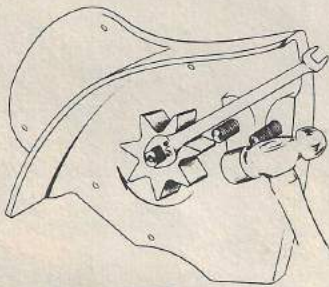

Fig. 15
- 1. TO REMOVE CLUTCH:** Remove sprocket (Fig. 15, Pg. 10) by tapping firmly with hammer to the right or clockwise. (Sprocket has left hand thread.) Remove cover plate screws and cover plate. With piston stop (Fig. 14, Pg. 10) inserted in cylinder, bend back spanner nut lock washer (Fig. 16, Pg. 10) and loosen spanner nut (Fig. 16, Pg. 10). Lift out clutch assembly (Fig. 16, Pg. 10).